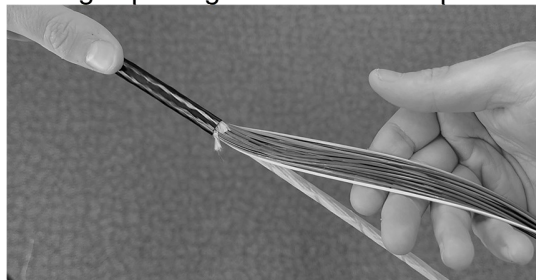

Figure 9 - Unwrap the Outer Core buffer tubes
4.10 Carefully unwrap the 15 outer buffer tubes from each other and remove any threads from between the buffer tubes making sure to take note of the buffer tube identification as referred to in section in Table 1. Also, make sure outer core buffer tubes are separated i.e. grouped together with use of tape before addressing inner core. (Figure 9)